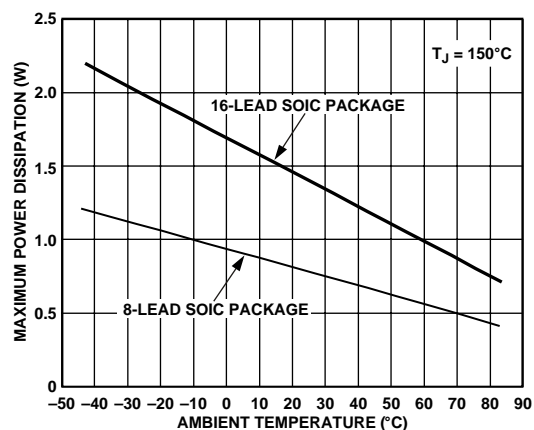

Figure 6. Maximum Power Dissipation vs. Temperature
Internal Power Dissipation ¹ Small Outline (R)	See Figure 6
Output Short-Circuit Duration	See Figure 6